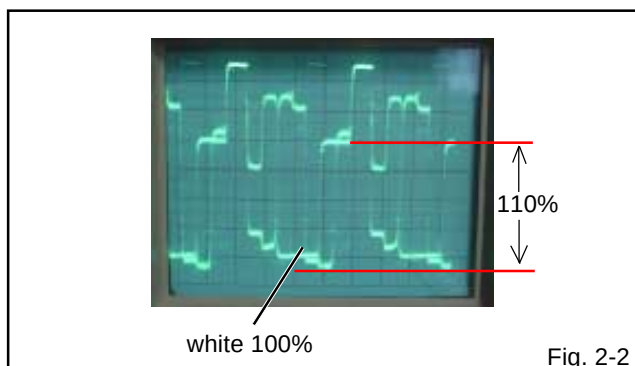

Fig. 2-2
6. Press the VOL. UP/DOWN button on the remote control until the red color level is adjusted to $110 \pm 10\%$ of the white level. **(Refer to Fig. 2-2)**
9. Press the VOL. UP/DOWN button on the remote control until the red color level is adjusted to $110 \pm 10\%$ of the white level. **(Refer to Fig. 2-2)**